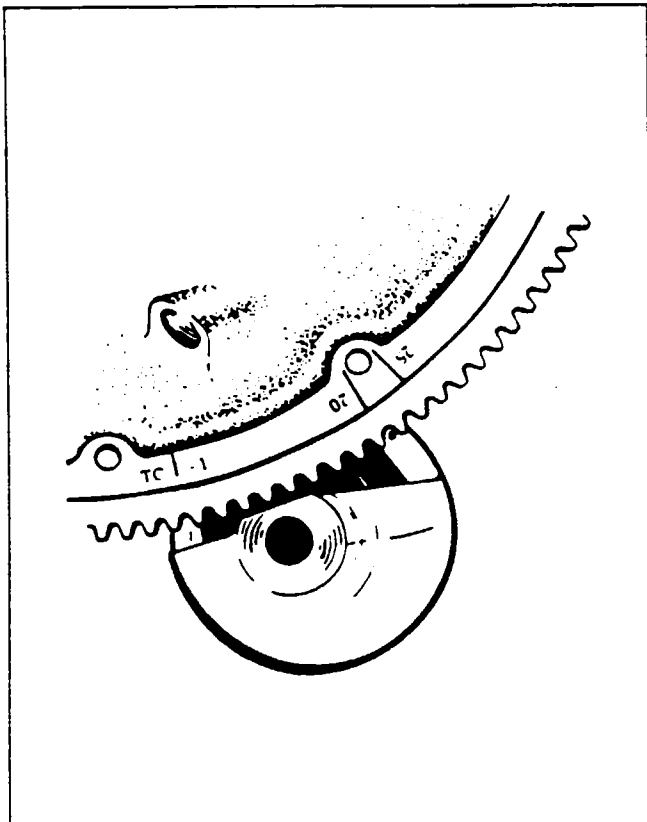

Figure 74-7. Engine Timing Marks
2. Continue turning the crankshaft until the 20° advance timing mark is in alignment with the small hole located on the top face of the starter housing at the two o'clock position. (Refer to Figure 74-7.)